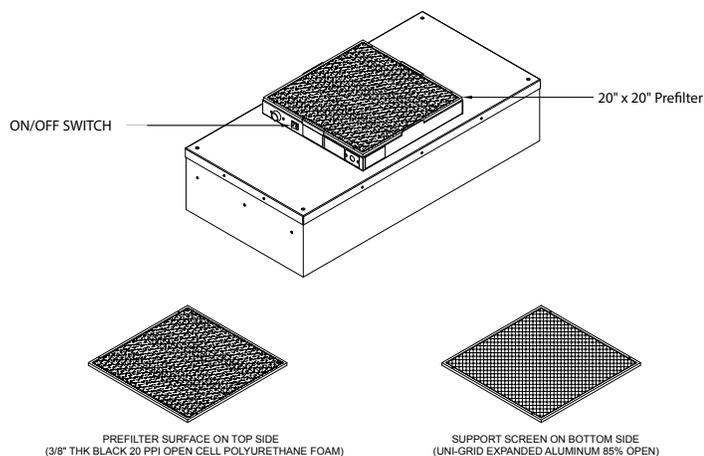

Figure 2: Foam Cleaning Prefilter
Step 3. Remove the prefilter from the snap-in frame. (See Figure 2, below.)